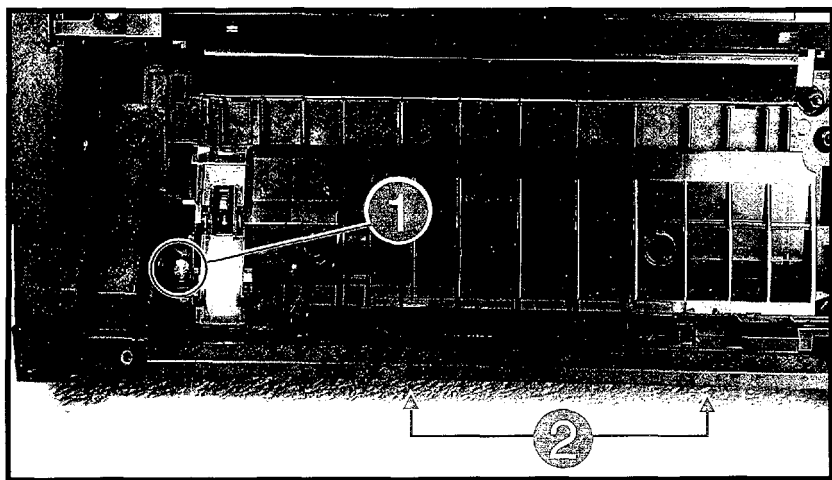

Figure 6-24 Removing the Paper Guide/Roller Assembly
It is not necessary to remove the Printer Cover, although the front alignment tabs (Figure 6-24, callout 2) are more easily accessible with the cover removed.
1. Remove the (1) self-tapping screw on the left side of the assembly (Figure 6-24, callout 1).
2. Lift the rear of the assembly while pushing down at the front, and pull it to the rear slightly (this releases the tabs - Figure 6-24, callout 2).